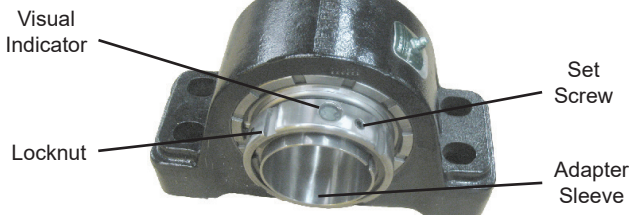

Figure 1
6. Look at the visual indicators on the locknut. At least one of the visual indicators should show an indication of deflection. See Figure 1. If at least one indicator does not show indication of tightness after 1/4 turn beyond the final adjustment, the locknut needs to be completely loosened and start over with step 3.
9. Look at the visual indicators on the locknut. At least one of the visual indicators should show an indication of deflection. See Figure 1. If at least one indicator does not show indication of tightness after 1/4 turn beyond the final adjustment, the locknut needs to be completely loosened and start over with step 6.